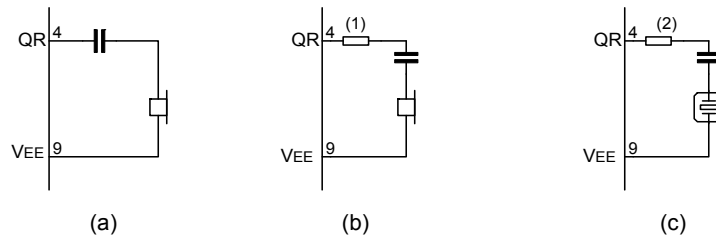

Fig.11 Alternative receiver arrangement
The receiving amplifier has one input (IR) and a non-inverting output (QR). Earpiece arrangements are illustrated in Fig.11. The IR to QR gain is typically 31dB (when R4=100kΩ). It can be adjusted between 20 and 31dB to match the sensitivity of the transducer in use. The gain is set with the value of R4 which is connected between GAR and QR. The overall receive gain, between LN and QR, is calculated by subtracting the anti-sidetone network attenuation (32dB) from the amplifier gain. Two external capacitors, C4 and C7, ensure stability. C4 is normally 100pF and C7 is 10 times the value of C4. The value of C4 may be increased to obtain a first-order low-pass filter. The cut-off frequency will depend on the time constant R4\*C4. The output voltage of the receiving amplifier is specified for continuous-wave drive. The maximum output voltage will be higher under speech conditions where the peak to RMS ratio is higher.